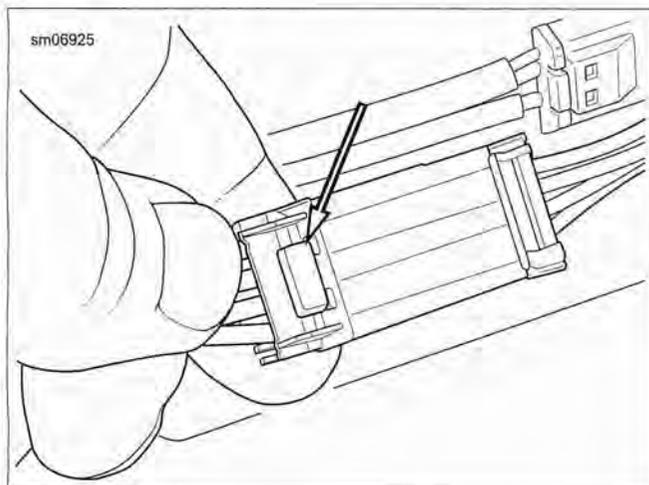

Figure A-36. Release Buttons: JAE MX19 Sealed Connector
**Separate Housings:** See Figure A-36. Press the two release buttons on each side of the housing to separate the connector.